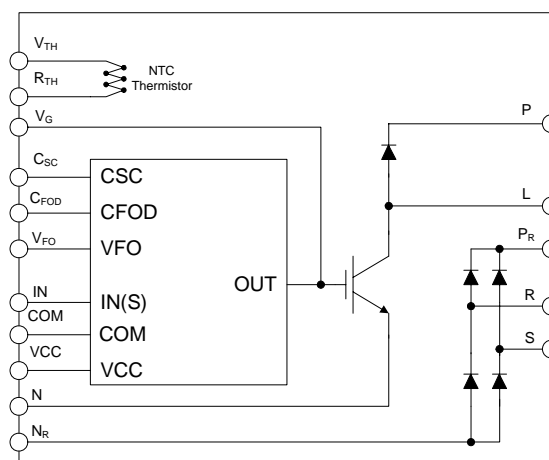

Fig. 3.
- PFC converter for single-phase AC/DC power conversion (Please refer to Fig. 3)